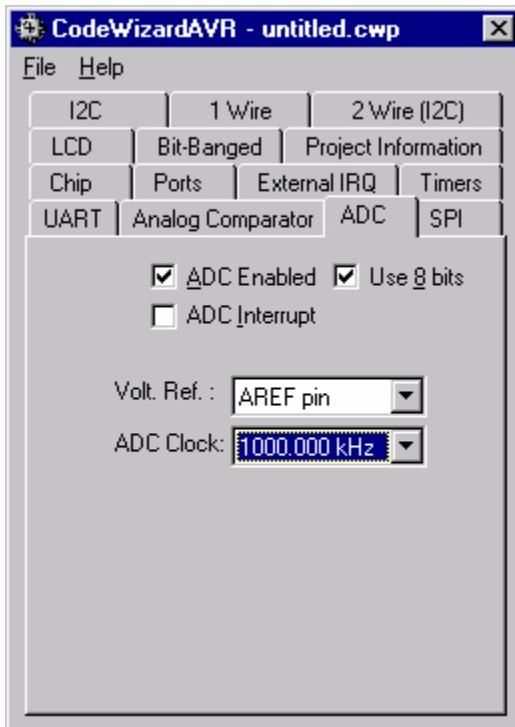

Figure 3: ADC
5) Set the ADC (Analog to Digital Converter) options as shown in Figure 3